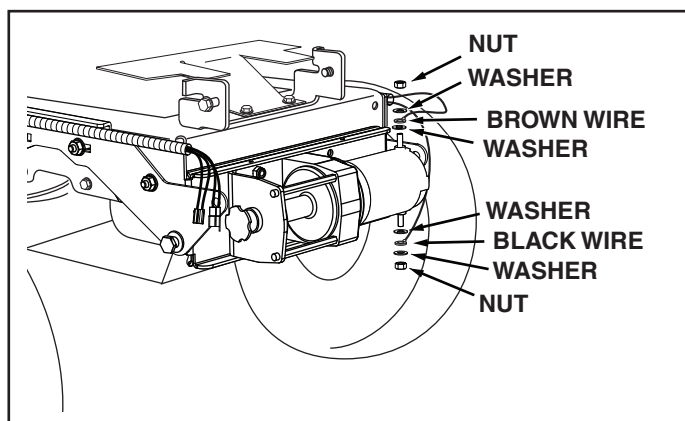

FIGURE 6
- Connect the wire harness to the winch motor using the pre-assembled nut and washers. Place the brown wire on the top terminal and the black wire on the bottom terminal. See figure 6.